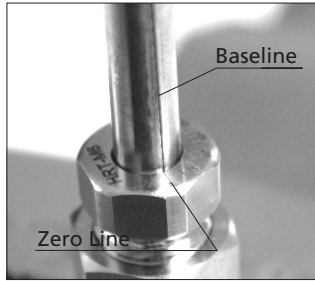

Fig.3-4
4. Rotate the handle until the baseline on the tool coincides with the Zero Line on the orientation nut. (Fig.3-4)